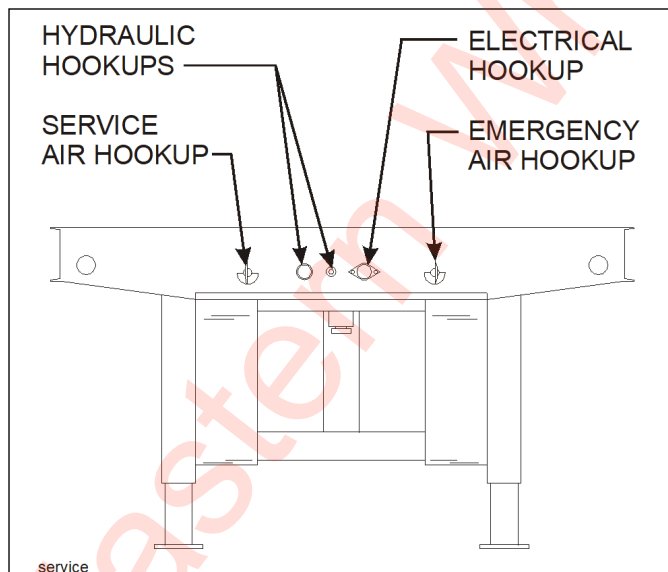

Figure 3-1: Service Hookups (Front View)
3. Connect the service and emergency air hoses of the tractor to their respective gladhand on the front of the semitrailer. The tractor's air hose couplings are then attached and locked to the appropriate gladhands; the **red emergency line** to the gladhand with the "**EMERGENCY**" tag, and the **blue service line** to the gladhand with the "**SERVICE**" tag (See **Figure 3-1.**) Chock the semitrailer wheels before activating the semitrailer air supply valve in the tractor. Set the semitrailer brakes.
1. Connect the tractor 7-way electrical plug to the electrical receptacle on the front of the semitrailer (See Figure 3-1.)